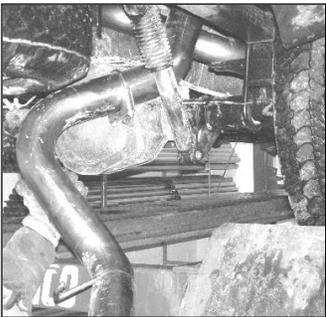

Figure 4
3. Install the **Tail Pipe** and **4” Band Clamp** onto the **Over Axle Pipe**. Slide assembly from the rear of the truck, over the axle and attach to the **Muffler Outlet**. Install the tail pipe hanger into the OEM hanger, adjust for best axle clearance and **Tail Pipe** exit location to complete. **See Figure 4.**